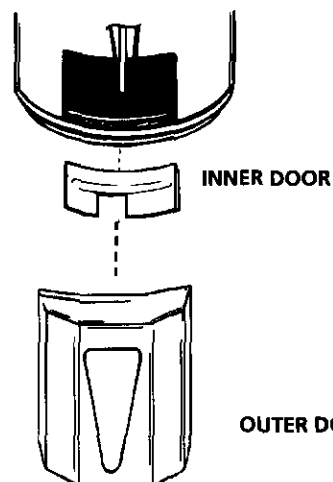

Figure 9
10. Replace (or close) inner door. (Figure 9, page 20)